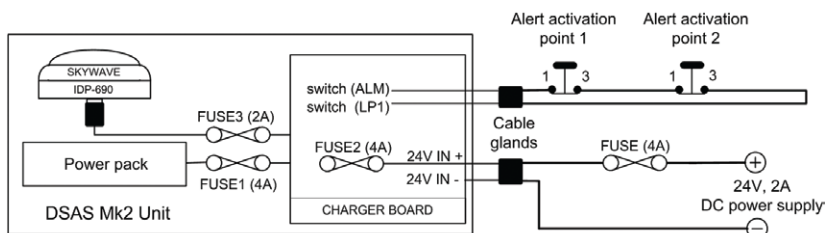
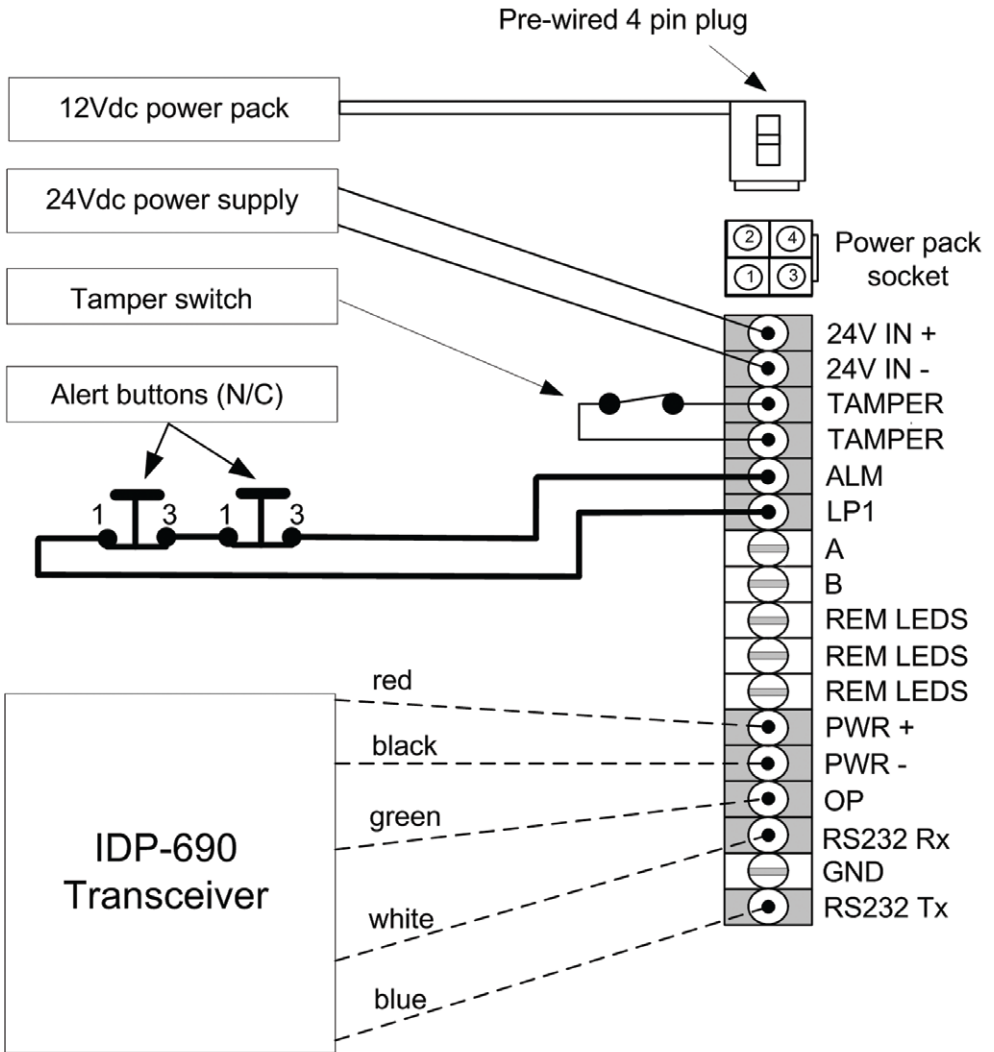
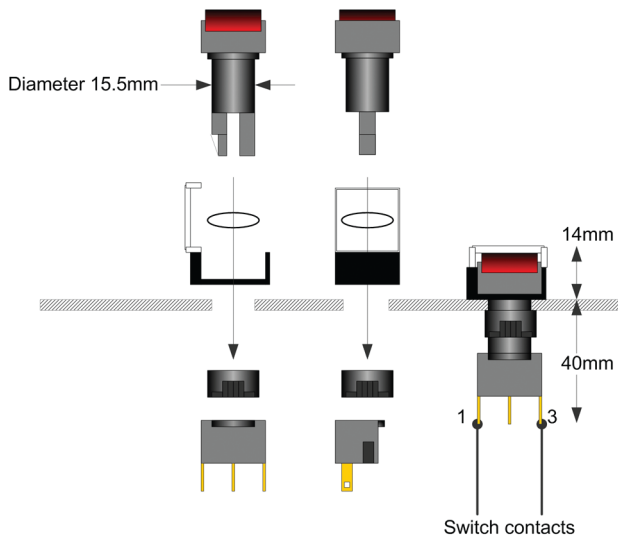

Figure 1 - DSAS Mk2 schematic
Figure 5 - DSAS Mk2 connections to terminal block
Figure 10 - DSAS Mk2 alert activation points assembly
The DSAS ship security alert system is self-contained requiring only mounting, connection to power, and wiring of two alert activation points. The unit consists of a satellite transceiver, 18Ah VRSLA power pack, and a multistage charger unit. The unit requires an external DC supply to maintain the power pack charge. On disconnection of external power, the unit will operate for approximately 5-7 days. Operation of the unit is completely automatic, and the only user intervention that should be required after installation is to restore the external power supply in the event of disconnection. Figure 1 below shows a schematic diagram of the unit.
3. Connect the unit to the vessel power supply as per Figure 1. The internal connections to the unit are given in Figure 5.
The power supply cable must be fed through the first cable gland and attached to the charger board as per Figure 5.
4. Assemble and install the alert activation points as shown in Figure 10. Cabling must be fed through the second cable gland and attached to the charger board as shown in Figure 5.
Note: The alert activation points should be wired in series using normally closed momentary action switches (terminals 1 & 3 in the supplied alert activation points) – refer to Figure 1.
Feed the power supply and alert button cables through the unit cable glands and attach as indicated in figure 5 of the installation guide. Tighten the glands using a 24mm spanner.